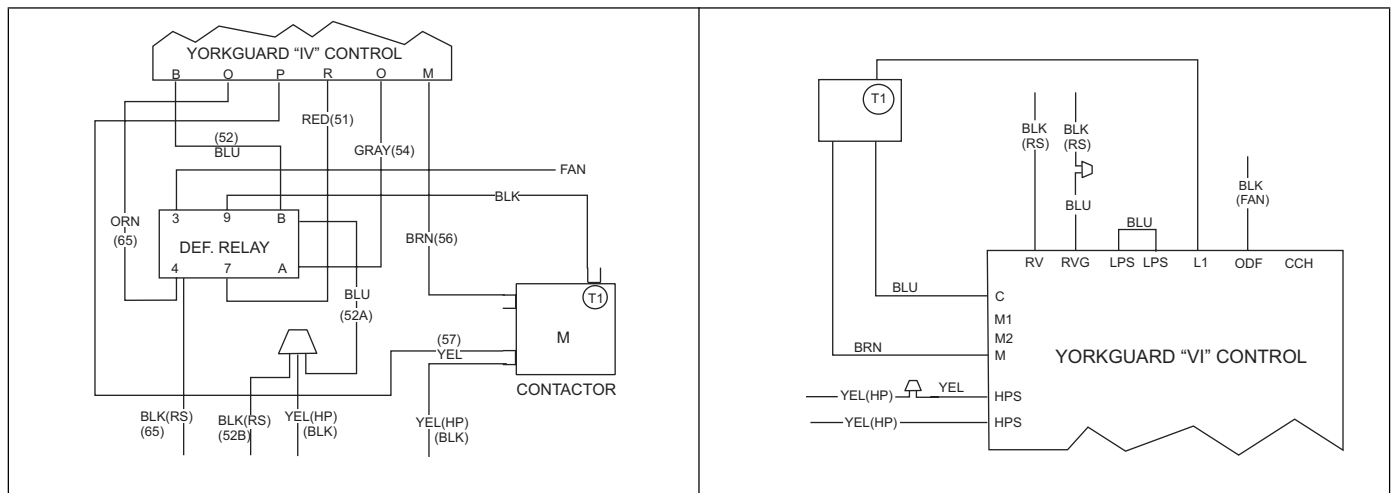

FIGURE 1: Wiring Connections for E*FH and E*EB
7. Re-wire per Figure 1 for E*FH and E*EB.
The control includes a TEST input connector that can be used for various testing functions during installation and service. The TEST input connector is shown in Figures 1 and 4. The following table summarizes the behavior of the control when the two TEST pins are connected. More detailed descriptions of the various functions are included in other sections of this document.